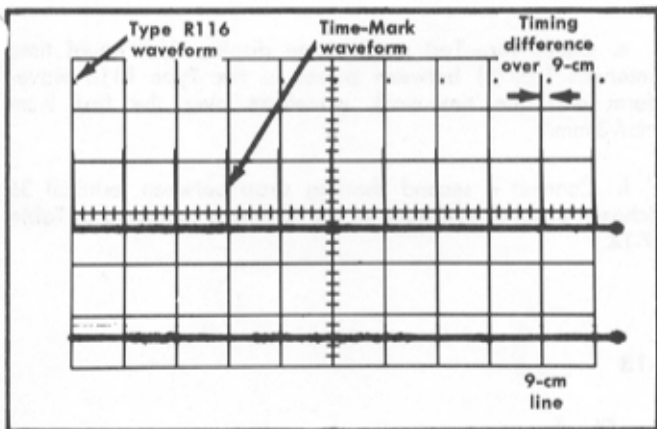

Fig. 7-37. Typical test oscilloscope display for checking period timing.
f. Check for — Test oscilloscope display with equal time interval between the pulses in the Type R116 waveform and those in the reference time-mark signal, ± 2.7 mm over the first 9 cm of the test oscilloscope graticule (10 ms $\pm 3\%$). See Fig. 7-37 for the display.